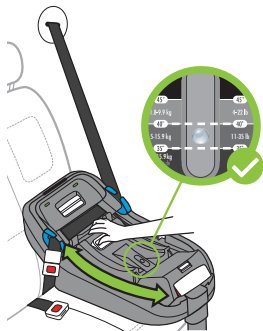

Figure 66
- Pull and hold Recline Sled Adjustment Handle and rotate Recline Sled, as shown in **Figure 66**, to the maximum recline adjustment position that keeps part of the bubble within the range specified on Recline Indicator for the child's weight.